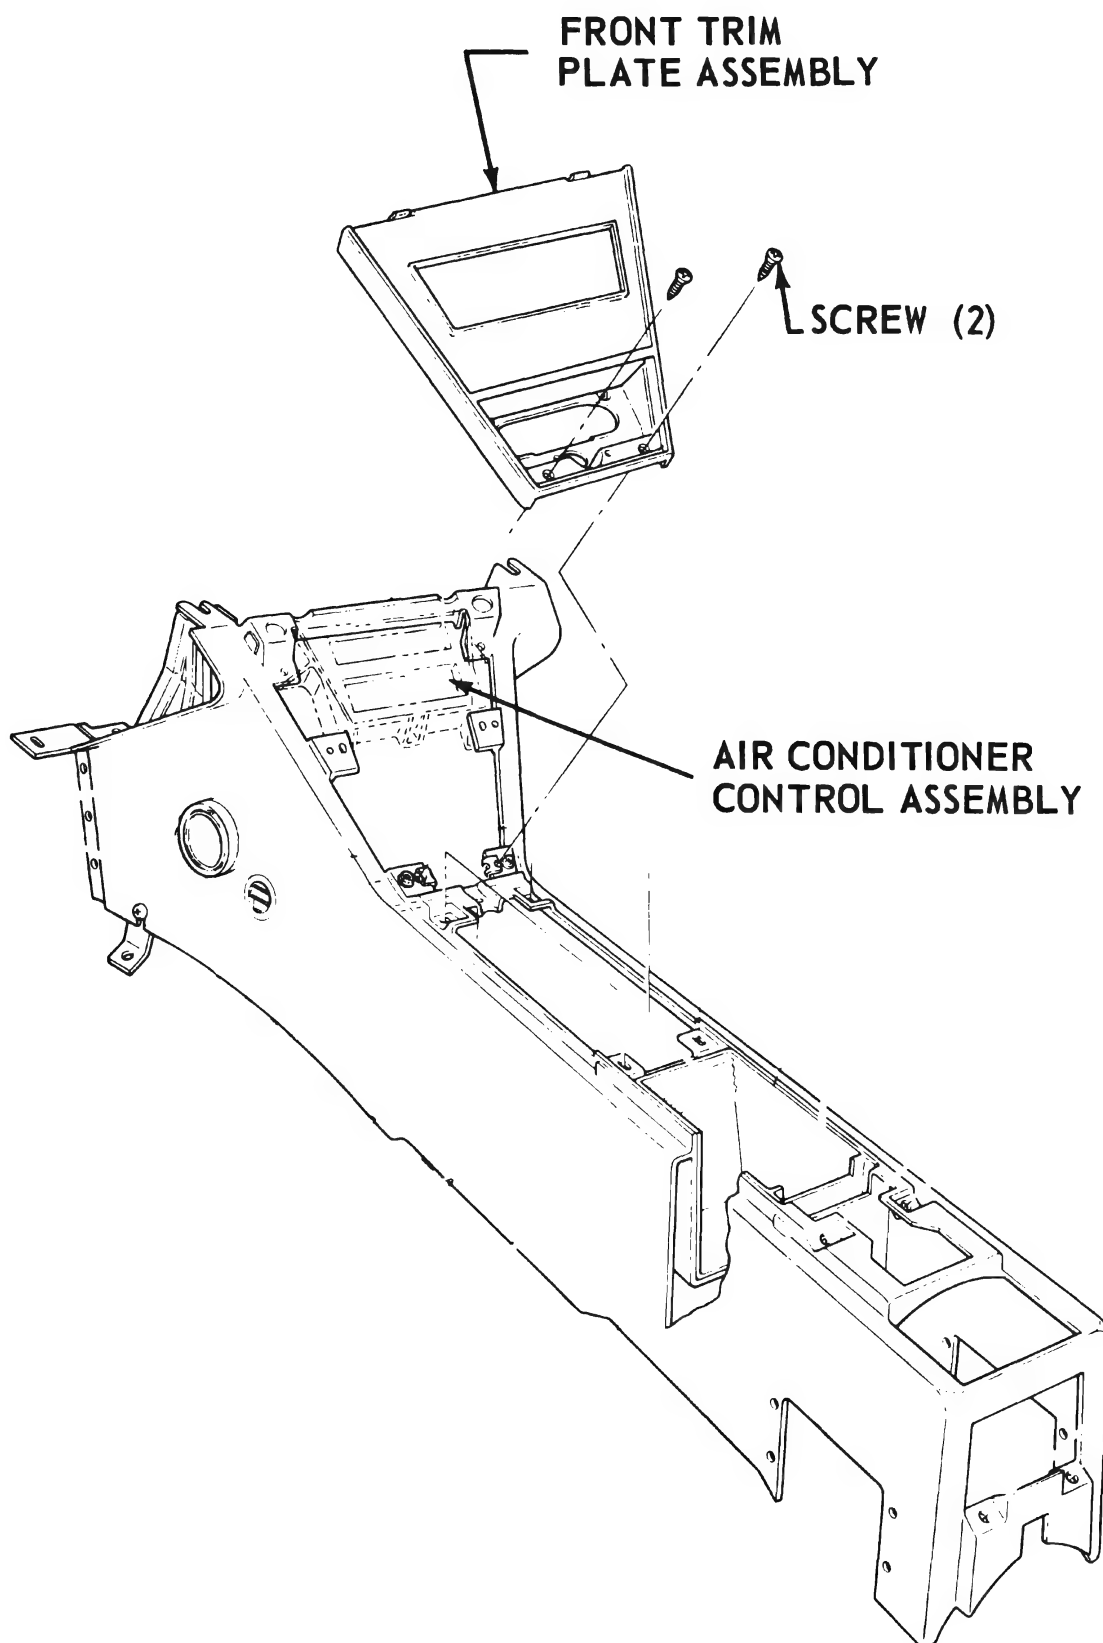

Figure 11-8—Center Console Front Trim Plate and Air Conditioner Control Assembly - 4700 Series
1. Remove two screws from center console front trim plate assembly (see Figure 11-8) and partially lift up front trim plate.
4. Remove four screws and lower air conditioner control assembly (see Figure 11-8).